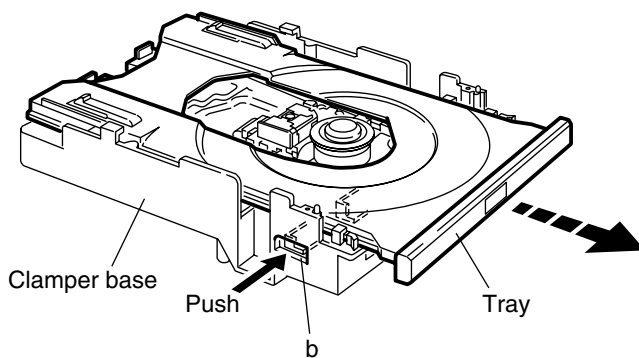

Fig.2
■ Removing the tray (See Fig.2 and 3)